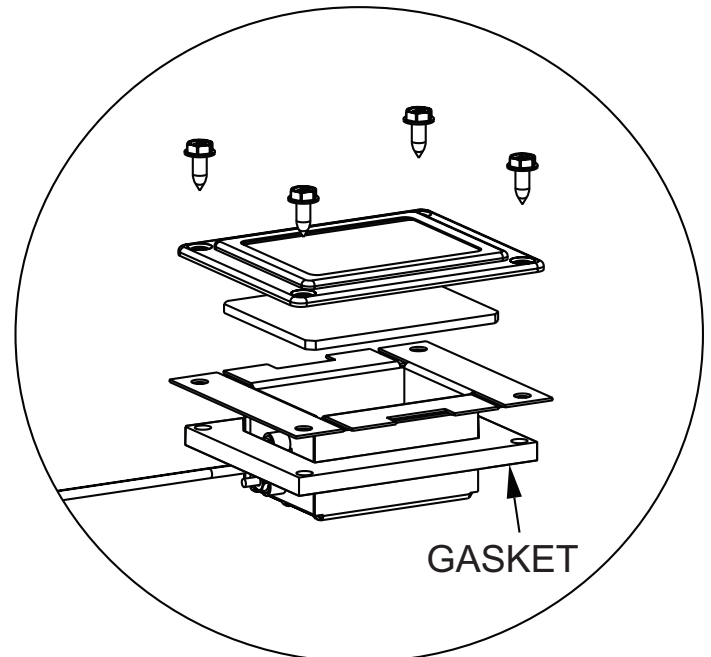

Figure 4
4. Install the two Accent Light Assemblies as shown in Figures 4 and 5. The left assembly's wires should be left, and the right assembly's wires should point right.